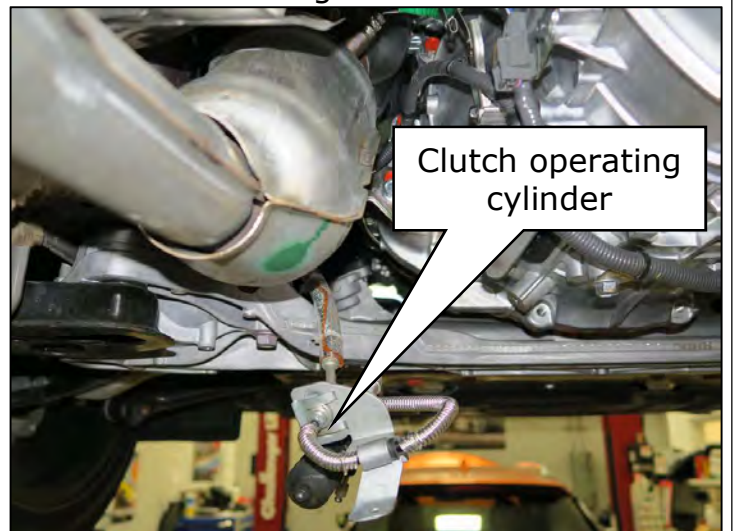

Figure 46
- Allow the clutch operating cylinder to rest under the catalytic converter as shown in Figure 46